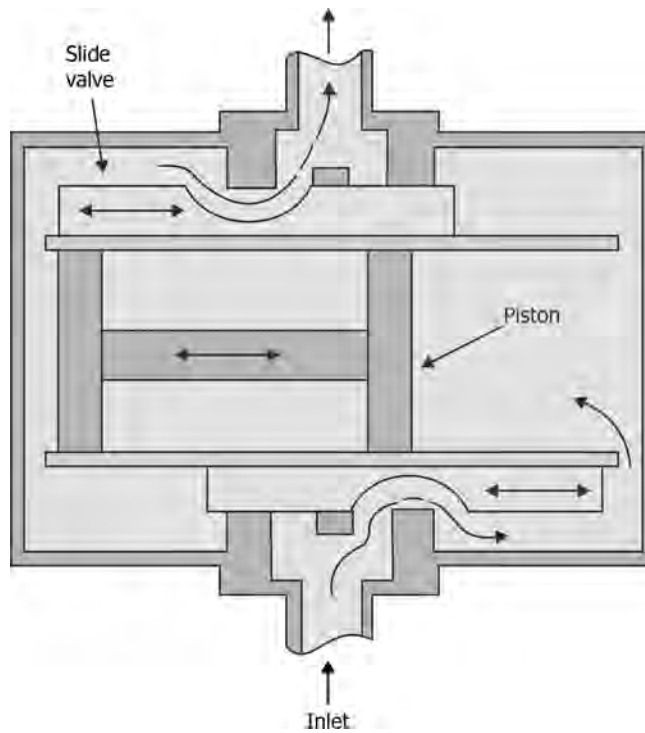

FIGURE 4.34 Single piston reciprocating positive displacement flow meter.
- A single piston reciprocating positive displacement flow meter is shown in Figure 4.34.